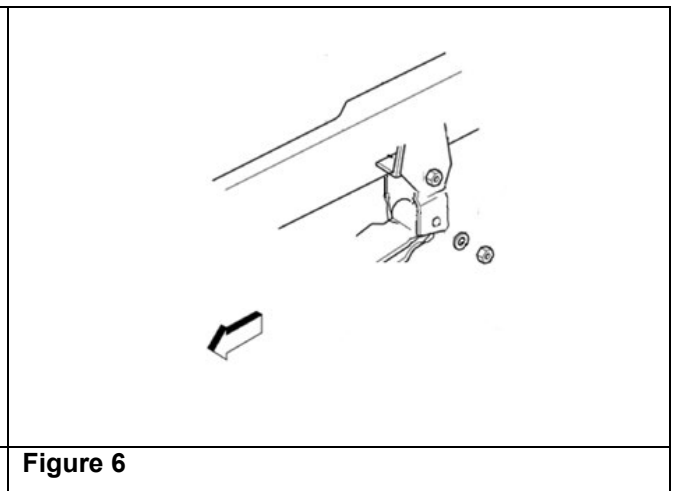

**Figure 4**
9. Hold the upper half of the shock absorber with a hand and remove the nut (8), the washer (9), and the insulator (10). (See Figure 4.)
38. Install the following components the insulator (10), the washer (9), and the nut (8) onto the upper shock absorber. (See Figure 4.)